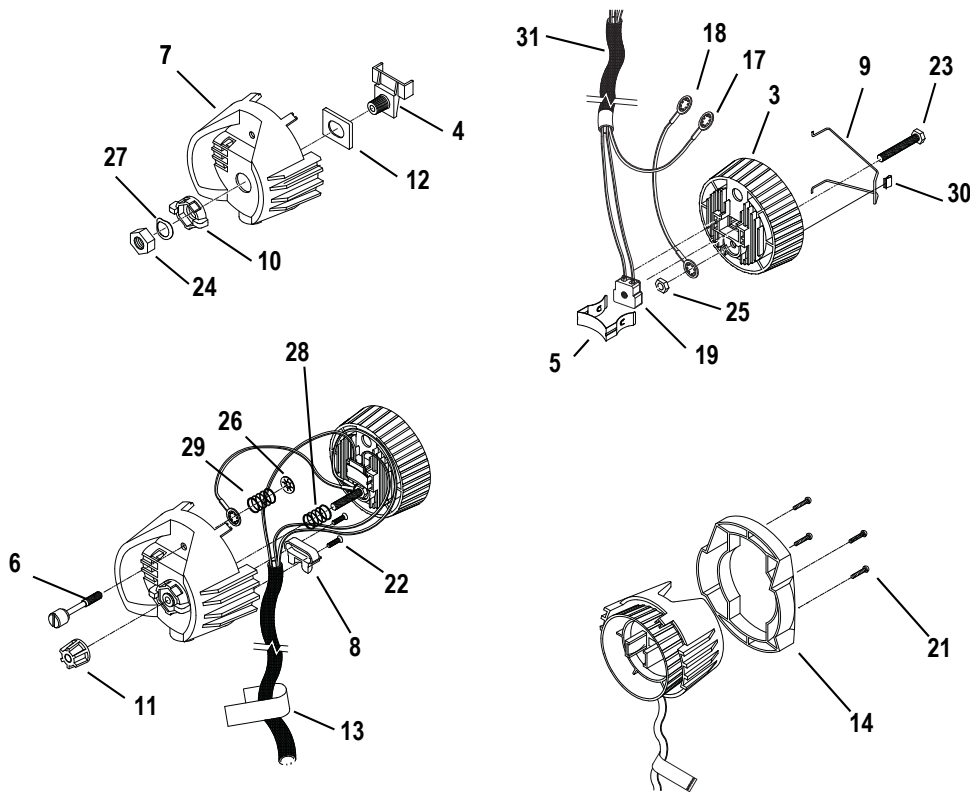

Figure 2
Step 15: Using the four screws (21), attach the handle (14) to the lamp socket assembly. See Figure 2.